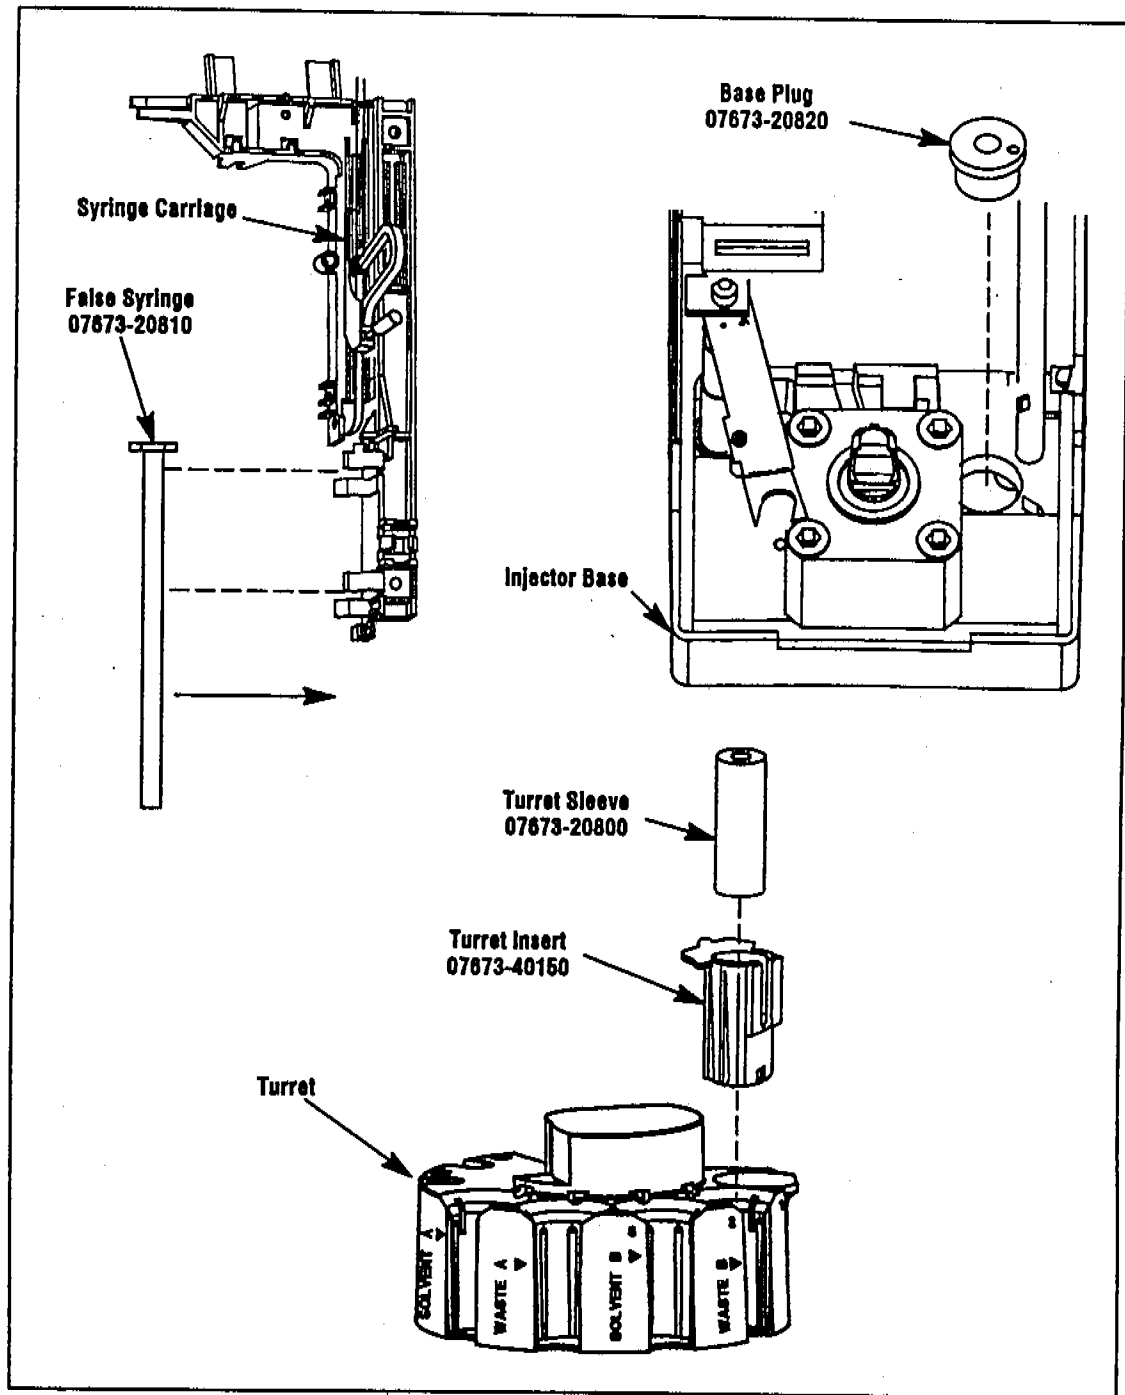

Figure C-10. Installing injector alignment tools.
2. Install the false syringe in the syringe carriage (figure C-10).